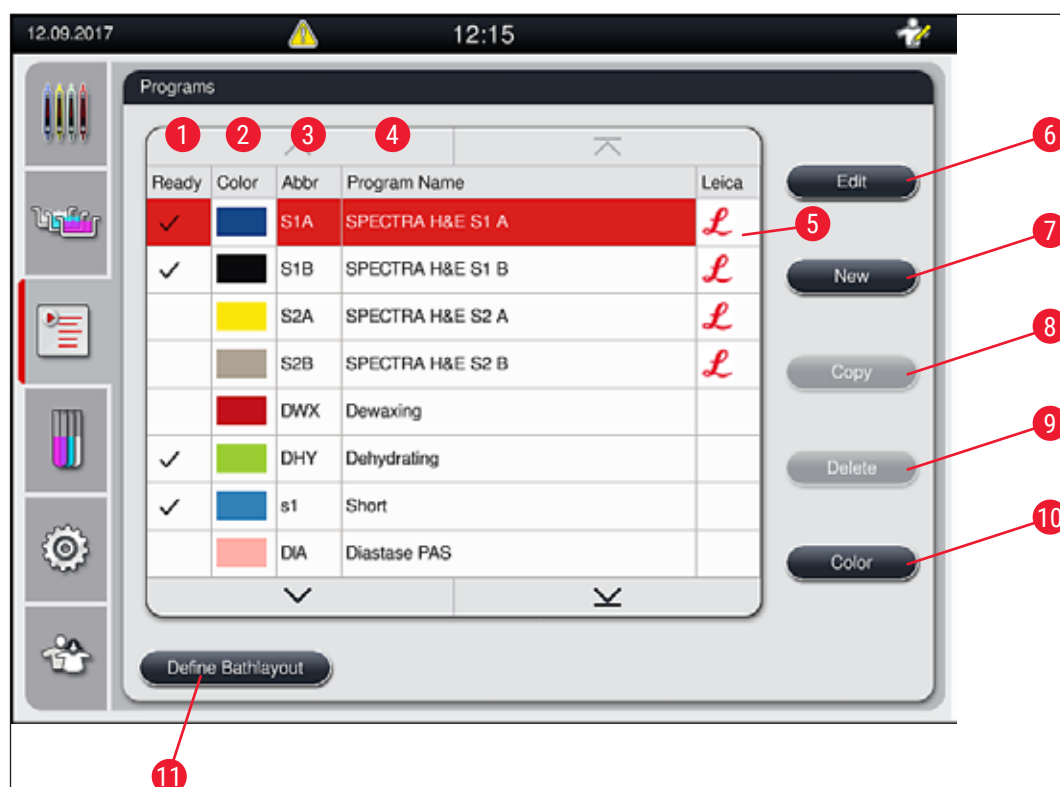

Fig. 40
- To assign a rack handle color to a program, tap the corresponding program in the program list (→ "Fig. 40") to select it.
Some Leica staining programs can be used in parallel with different settings (staining intensity, oven step) (→ P. 69 – 5.9.3 Adapting the Leica H&E staining program). These programs are pre-installed twice in the program list (→ "Fig. 40"). To distinguish between these twice pre-installed Leica H&E staining programs, the abbreviations S1A and S1B or S2A and S2B are shown in the program list. These programs contain exactly the same program steps. If two identical programs are integrated into the bathlayout, two identical Leica staining kits must also be scanned and filled.